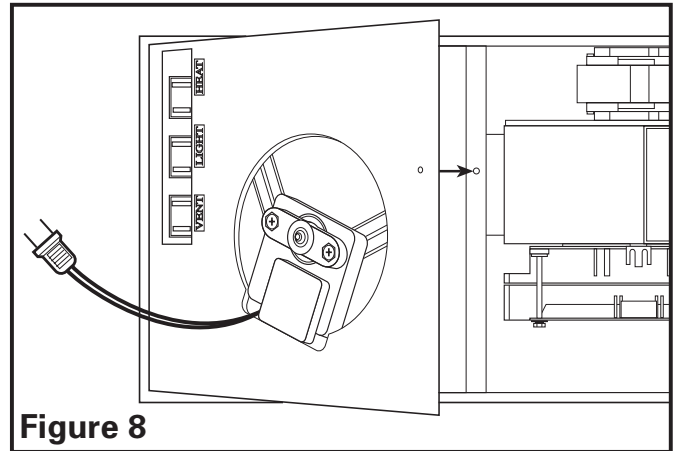

Figure 8
1. Reinstall the fan's venturi by holding it at approximately a 45 degree angle, hook the two tabs on the venturi into the slots on the housing and secure in place by tightening the venturi screw. Rotate the blower wheel by hand to ensure it spins freely (Figure 8).